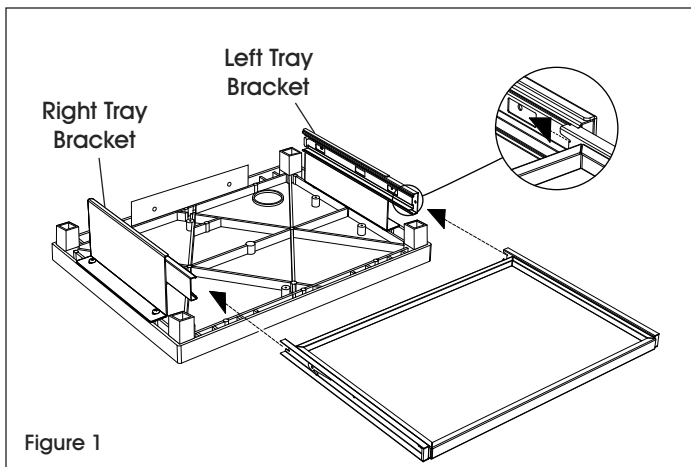

Figure 1
3. Slide keyboard tray into tray brackets and snap into place. (See Figure 1)